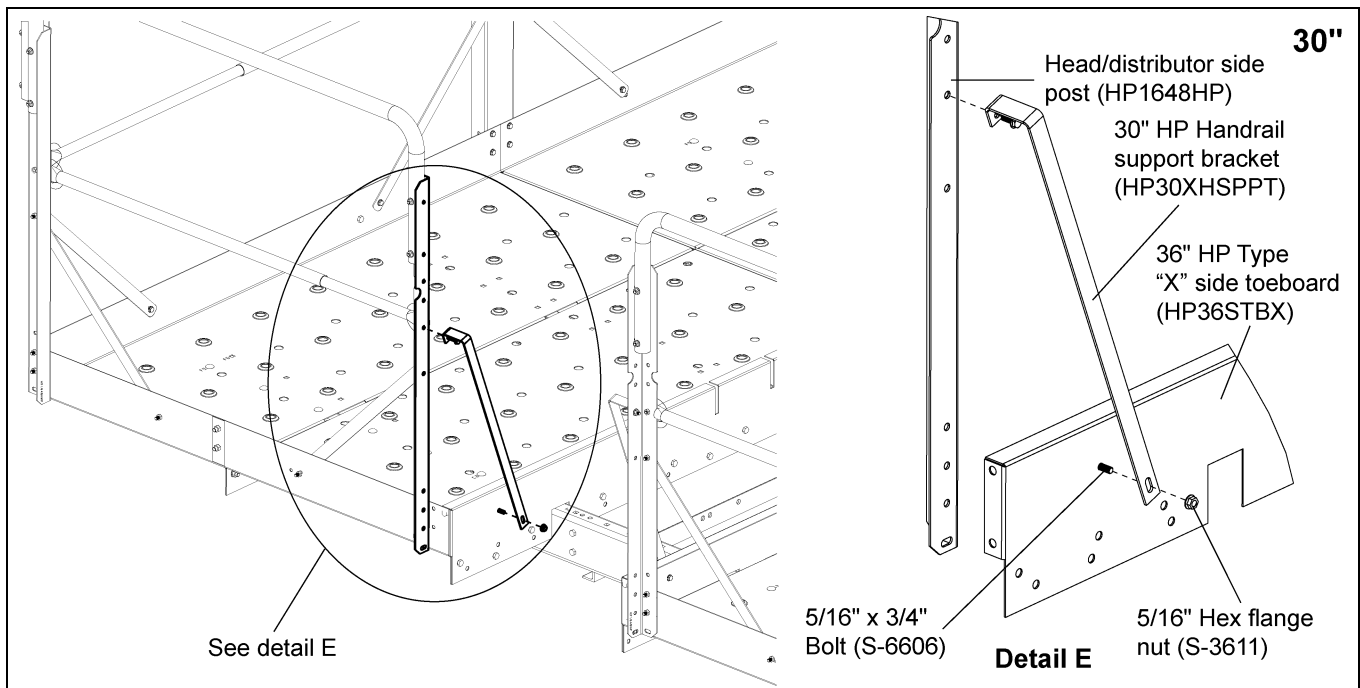

Figure 10F
2. Install handrail support bracket (HP30XHSPPT) from toe board to side post (HP1648HP) using 5/16" x 3/4" bolts and nuts. *(See Figure 10F.)*